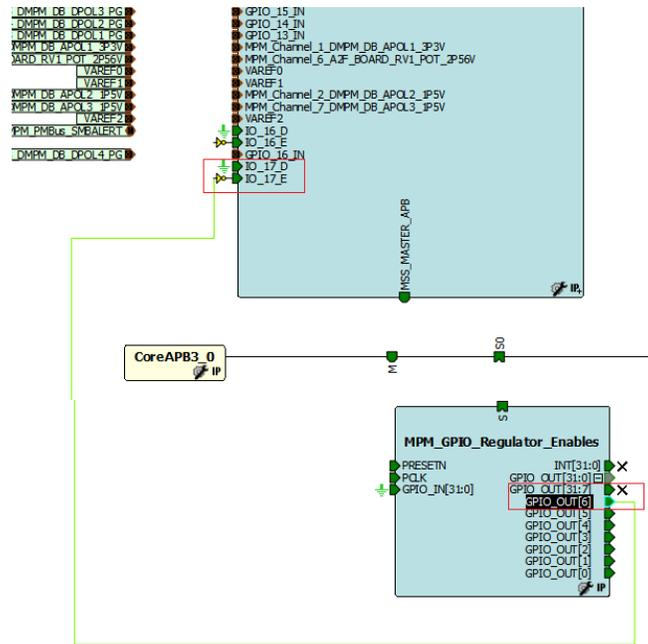

Figure 49 • CoreGPIO Block After Configuration
- Connect GPIO_OUT[6] port of MPM_GPIO_Regulator_Enables to IO_17_E port of SF_MPM_RefDesign_MSS. Now the CoreGPIO (MPM_GPIO_Regulator_Enables) block is similar to Figure 49.